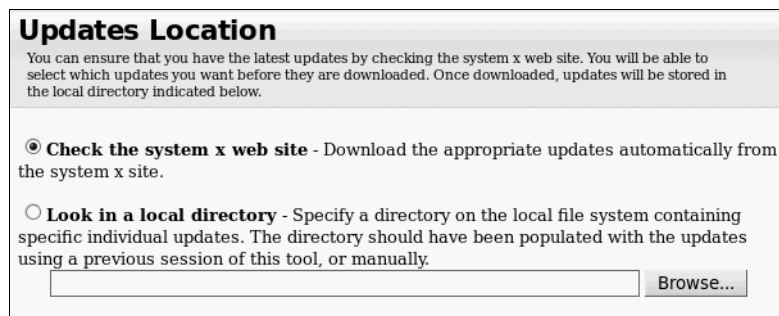

Figure 5-84 Selecting the update task
4. Accept the default **Check the system x web site**, as shown in Figure 5-84. Click **Next**.